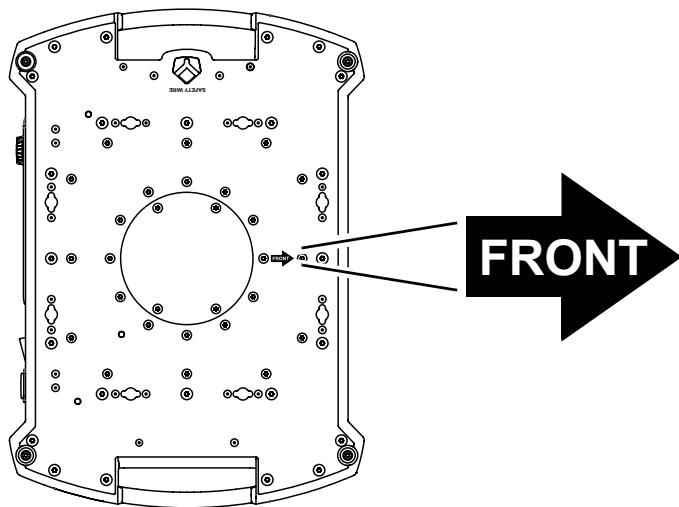

Figure 4: Front of fixture
3. See Figure 4. Note the position of the arrow on the bottom of the base. The arrow indicates the front of the fixture.